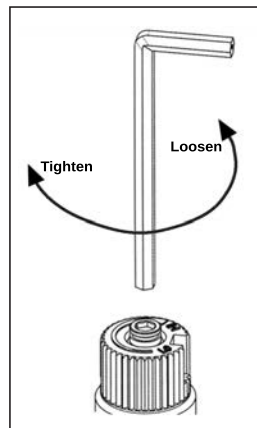

Figure 13: Removing valve screw.
- d) Insert a $\frac{5}{32}$ " or 4 mm Allen wrench into the hexagonal key-way of the screw (Figure 13), rotate it counter-clockwise until it is free and extract it.
- f) Using the Allen wrench (Figure 13), rotate the screw clockwise.